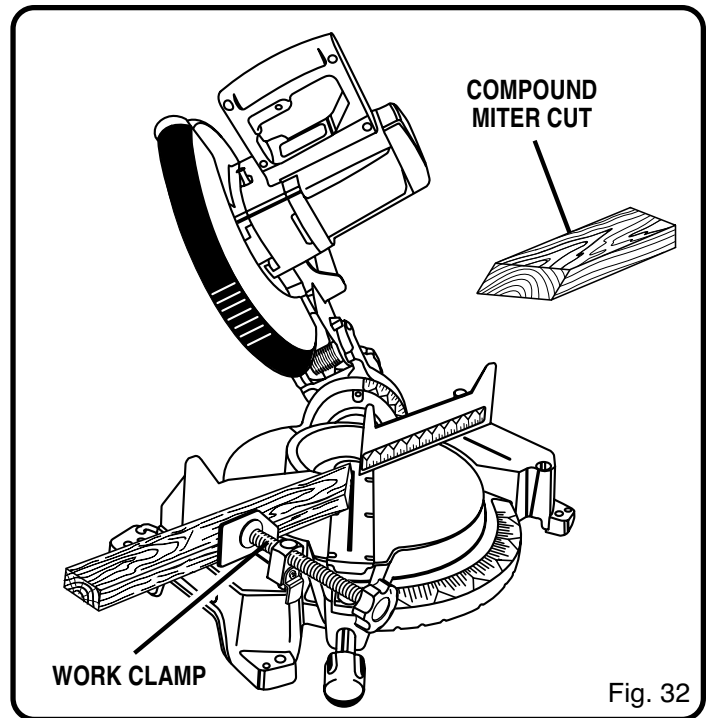

Fig. 32
- Grasp the stock firmly with one hand and secure it against the fence. Use the optional work clamp or a C-clamp to secure the workpiece when possible. See Figure 32.
- Slowly lower the blade into and through the workpiece. See Figures 32 and 33.